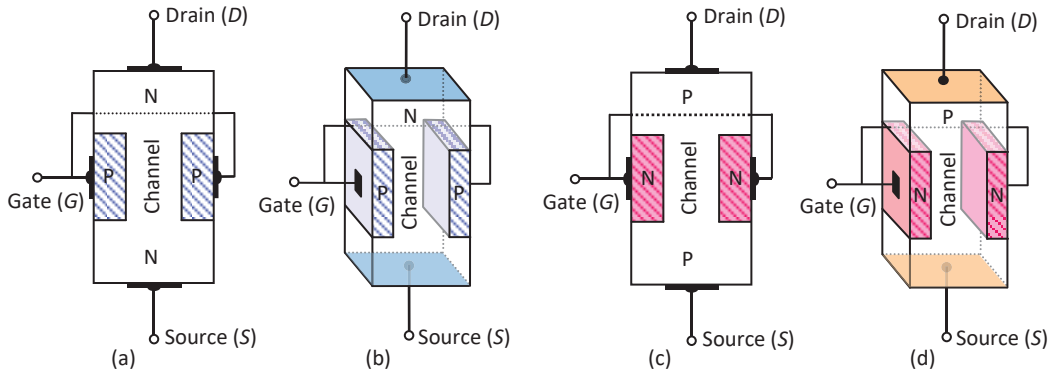

Fig.4-2: Construction of JFET: (a), (b) N-channel and (c), (d) P-channel.
Like the BJTs, field-effect transistors are also three-terminal device. The names of the terminals are: **Drain (D)**, **Source (S)** and **Gate (G)**. As shown in Fig.4-2, the construction of a FET may starts from an N-type or a P-type semiconductor bar. Let us start with an N-type semiconductor bar. On both opposite sides of the N-type materials, two P-type semiconductors are embedded. Metal
two opposite ends of the N-type semiconductor. One of them is called the **Drain** (D) and the other is called the **Source** (S). The region of N-type material between the two P-type regions is called the **channel**. Since, the channel is N-type semiconductor, this type of structure is called **N-channel Junction Field-Effect Transistor**. On the other hand, if the starting semiconductor is P-type and two N-type semiconductors are embedded in the opposite faces, the resultant device is called the **P-channel JFET** [Fig.4-2(a and c)].
Like BJTs and diodes, we can check field-effect transistors (FETs) using multimeter. As shown in Fig.4-2, there are two PN junctions between gate-drain, and gate-source terminals. In section 2-17, we discussed how a PN junction can be tested using multimeter. We can apply the same process to test the PN junctions of a JFET. As shown in Fig.4-15, the selector of the multimeter has to be set on 'Diode Testing Position'. If the junctions are forward biased, the meter reads the barrier voltage [Fig.4-15(a)]. But if the junctions are reverse biased, the meter will show 'OL' (over load) [Fig.4-15(b)]. These are the indications of a good JFET. A faulty JFET will give different readings.